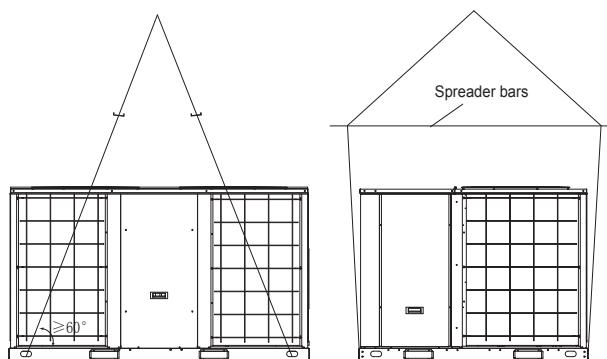

Fig.5-1
- Rigging cables should have adequate capability to resist 3 times weight of unit. Before lift, please check and ensure that hooks are holding tightly to unit and lifting angles are no less than 60°.(See Fig. 5-1)